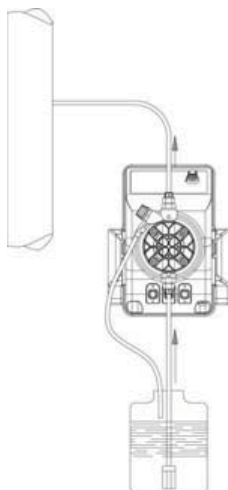
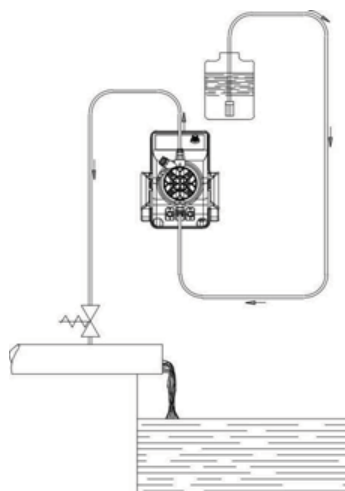

Fig. 5
Fig. 6
**c.** - Locate the pump as shown in fig. 5 bearing in mind that it may be installed either below or above the level of the liquid to be dosed, though the level difference should not exceed 2 meters. When the process plant in which the pump is installed is operating at atmospheric pressure (no back pressure) and the chemical tank is situated above the plant (Fig. 6), the condition of the injection valve should be checked at regular intervals, because excessive wear and tear could cause additive to drip into the plant even when the pump is shut down. If the problem persists, install a properly calibrate counter-pressure valve (C) between injection point and the valve. In the case of liquids that generate aggressive vapours, do not install the pump above the storage tank unless the latter is hermetically sealed.